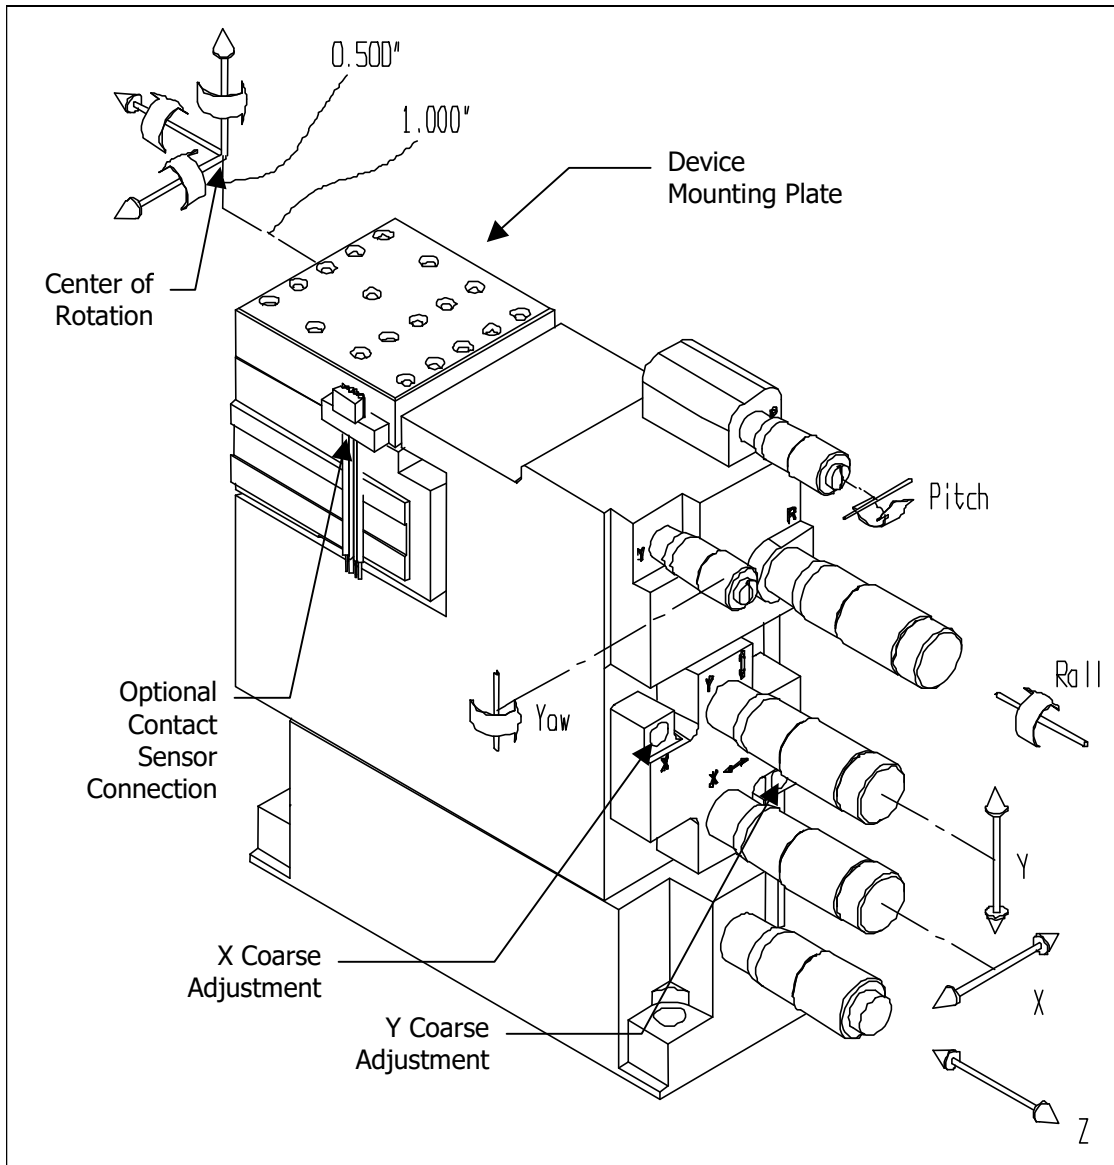

Figure 2 - I6000/I6005 6-Axis Positioner
- Small footprint allows multiple unit workstations (Fig 2).
Each line on the shaft of the micrometer corresponds to one rotation. The “smallest division” refers to the divisions on the knob of the micrometer. Clockwise rotation of each micrometer causes movement in a positive direction as shown in Figure 2 (pg. 6).
The device mounting plate (the square plate at the top of the positioner) is where devices and accessories are mounted. For dimensions, see Figure 6 on page 14. As shown in Figure 2 (pg. 6), the center of rotation for all axes is 1 inch out and ½ inch up from the end of the device mounting plate. To avoid having to adjust the X,Y and Z axes when rotating the device, the device alignment point should be as close as possible to the rotation center.